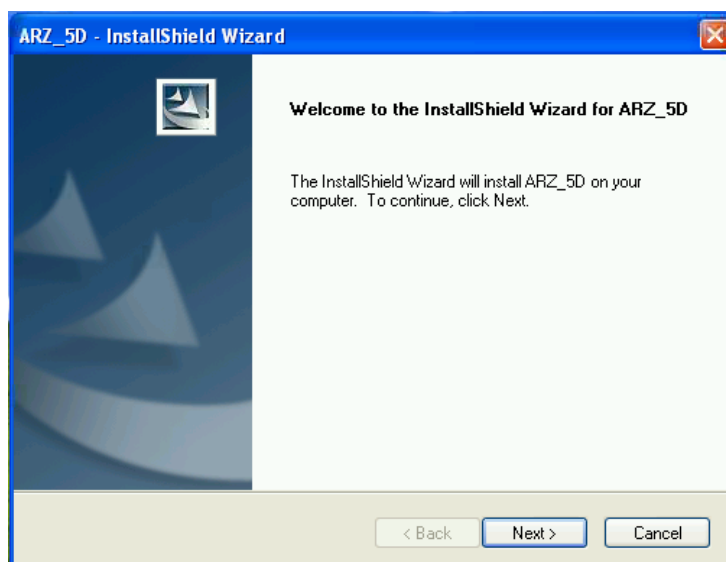
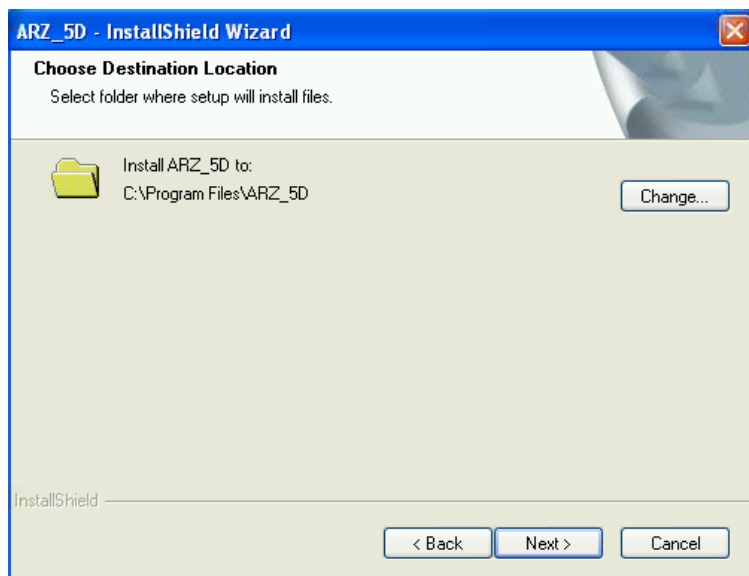

Fig. 128 Installation in progress
Fig. 129 Change installation path
(4) When the page in Fig. 128 as shown, click "next", the Fig. 129 is shown.